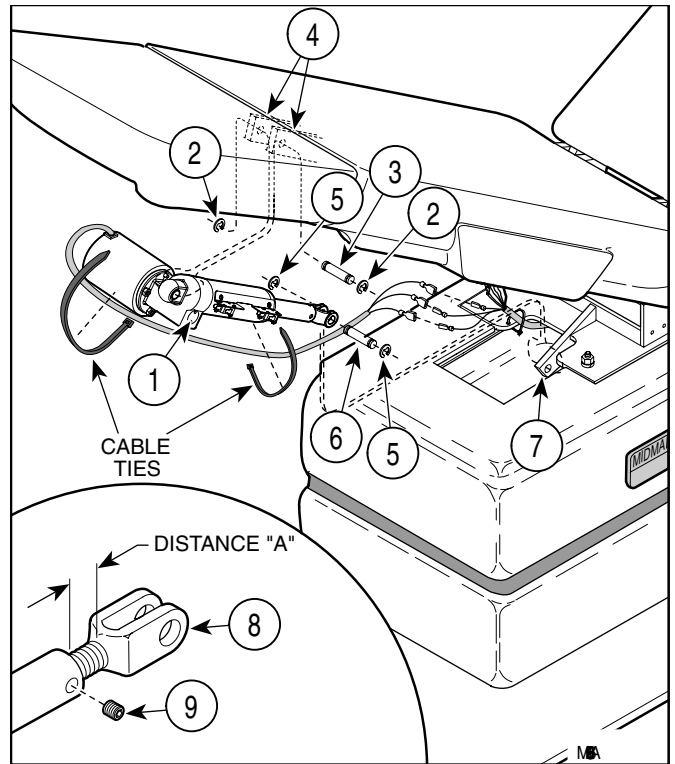

Figure 4-8. Tilt Actuator Assembly
- (2) Unplug power cord from wall outlet.
- (3) Cut cable ties securing wires/wire harnesses to tilt actuator assembly (1, Figure 4-8).
- (1) Secure yoke (8, Figure 4-8) in position by tightening two setscrews (9).